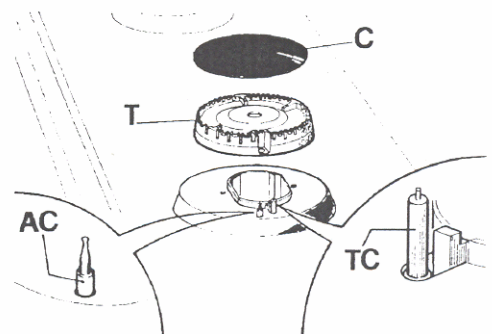

FIG. 8
Periodically wash the hot plate, the enamelled steel pan support, the enamelled burner caps "C" and the burner heads "M" (see fig. 8) with lukewarm soapy water. Following this, all parts should be thoroughly rinsed and dried. Never wash them while they are still warm and never use abrasive powders. Do not allow vinegar, coffee, milk, salted water, lemon or tomato juice from remaining in contact with the enamelled surfaces for long periods of time.
- Check that enamelled burner cap "C" (fig. 8) have correctly positioned on the burner head. It must be steady.